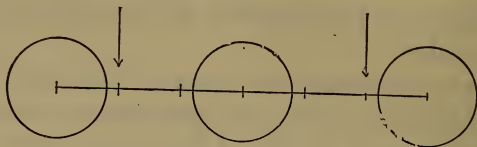

Fig. 268. Equalizing Weight on Drivers.
A. At points two-thirds away from the center wheel pair; this will put 16,000 pounds on each wheel of the first and third pairs and twice $8,000 = 16,000$ on each one of the center pair. (Fig. 268.)